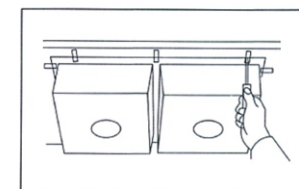

FIGURE 5
8. Position and align sink over the countertop opening and press sink onto countertop. Turn bent end of mounting bracket to snug over the sink rim. (FIGURE 5)